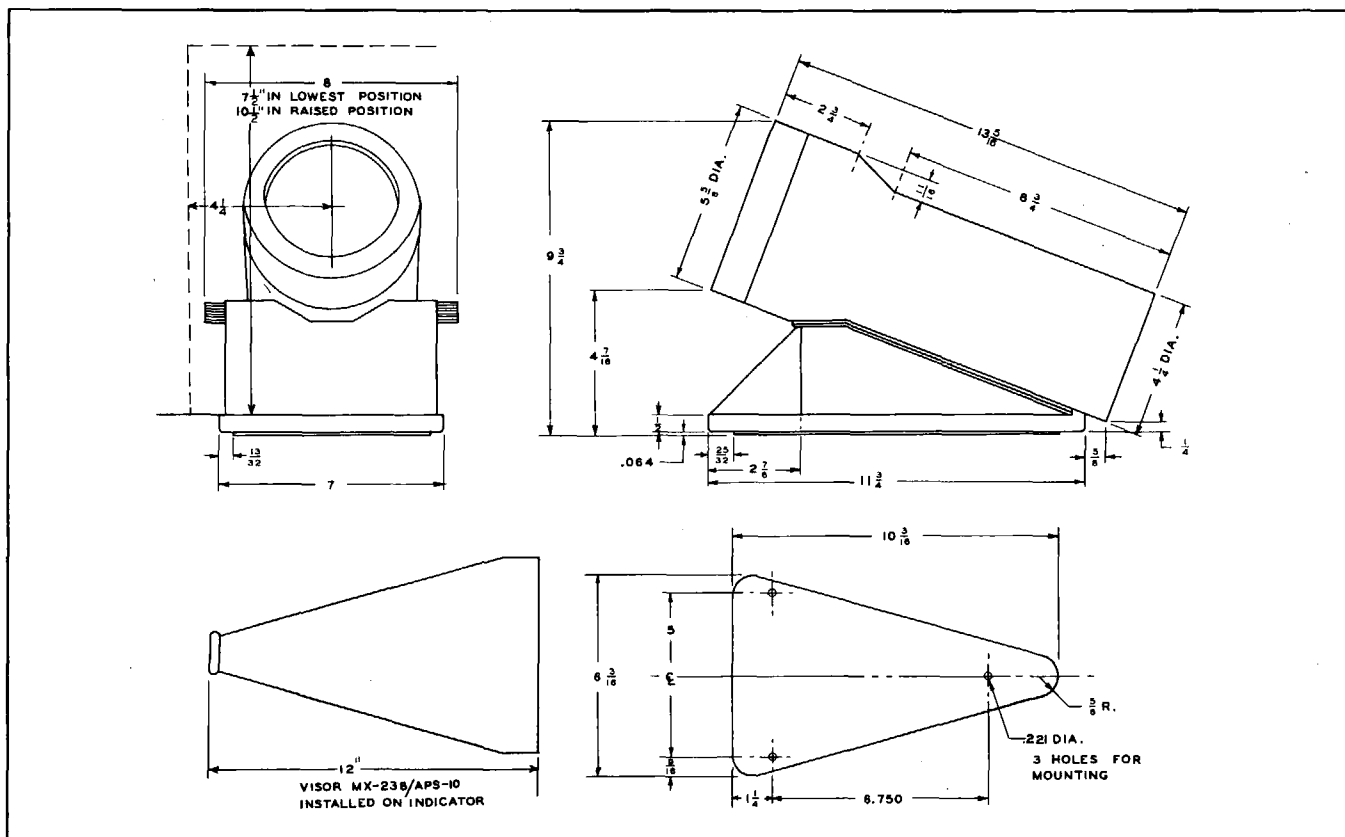

Figure 2-10. Indicator ID-99/APS-10—Outline Dimensions
(4) INDICATOR ID-99/APS-10.—The indicator (see figure 2-10) must be located in a position near